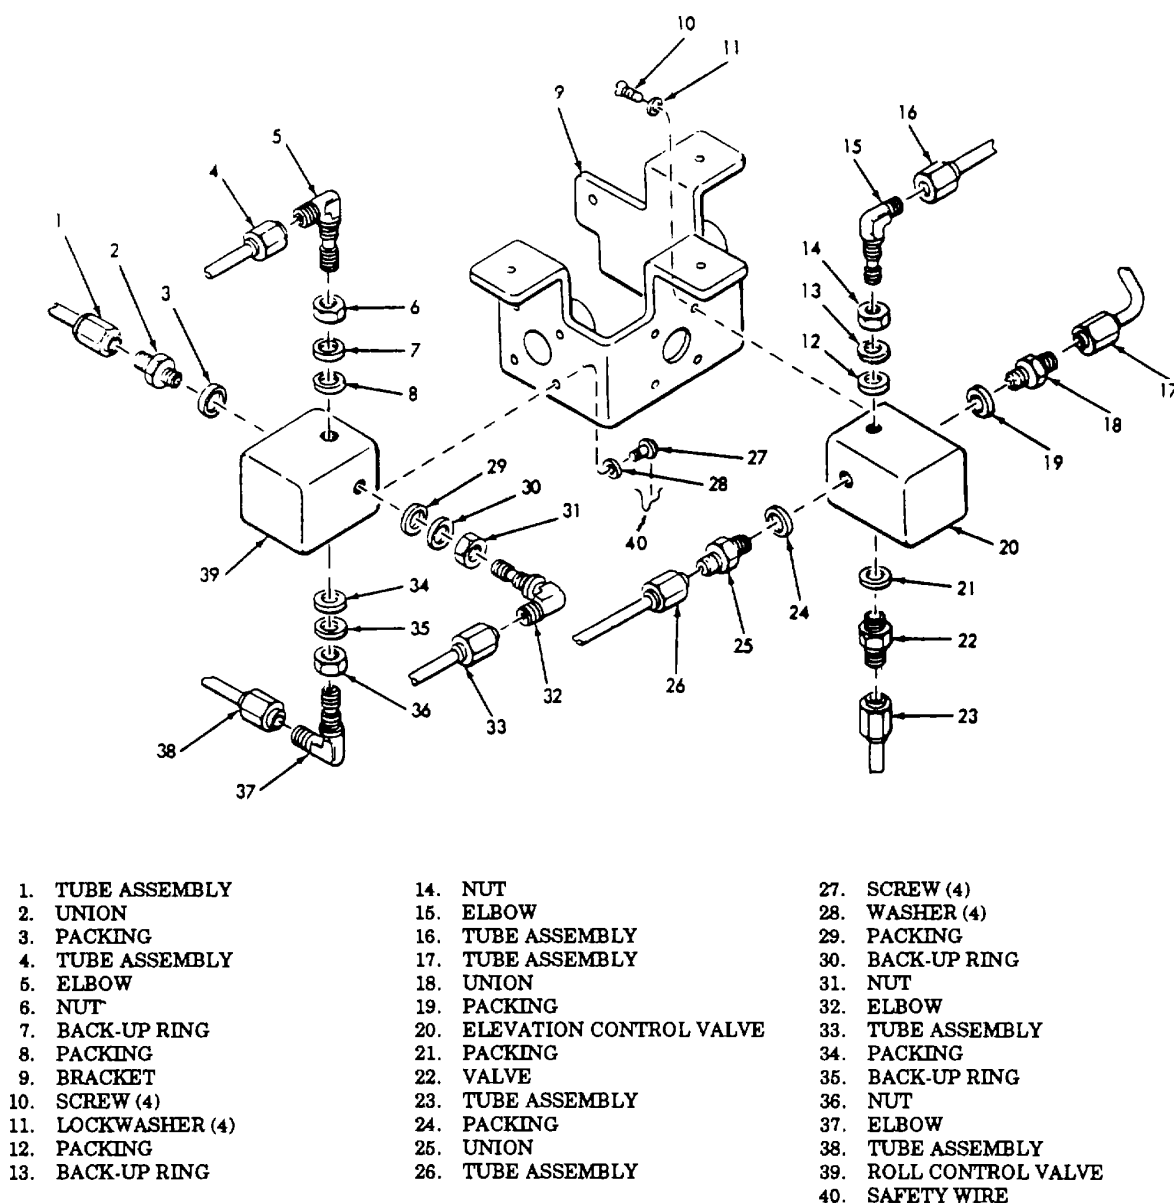

Figure 3-93. Roll and Elevation Control Valves Removal.
a. Removal (fig. 3-93)
(1) Disconnect tube assemblies (1, 4, 33 and 38) from roll control valve (39).
(2) Disconnect tube assemblies (16, 17,23 and 26) from elevation control valve (20).
(3) Remove four each screw (27) and washer (28) and remove roll control valve (39) from bracket (9).
(4) Remove elbow (5) with associated parts (6, 7 and 8) from roll control valve.